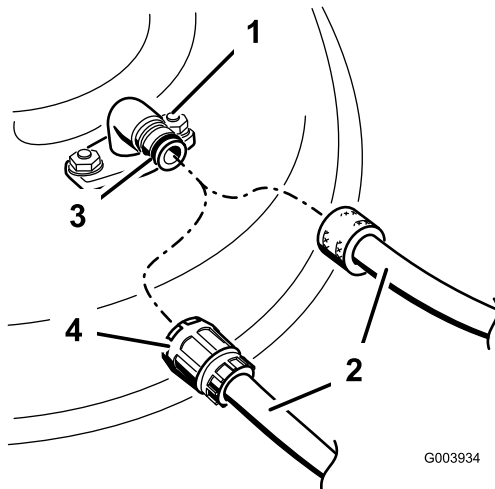

Figure 63
3. Attach the hose coupling to the end of the mower-washout fitting and turn the water on high (Figure 63).